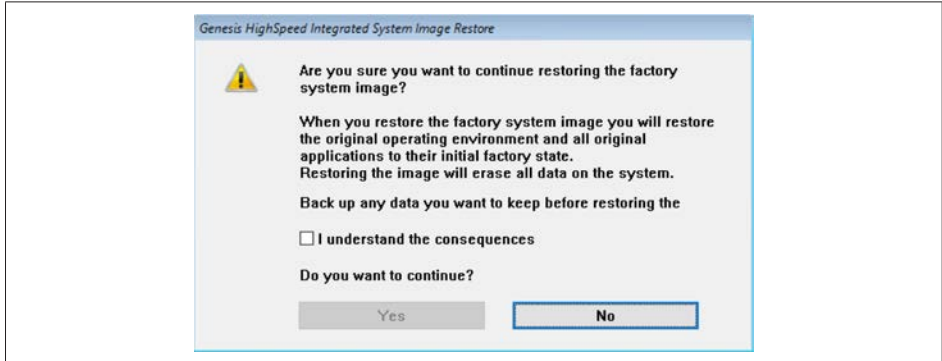

Fig. D.18 Genesis HighSpeed Integrated System Image Restore
4. When the message about the consequences of the restore appears (see Figure Fig. D.18), press the TAB key to check that the keyboard is recognized (this can take a few seconds).